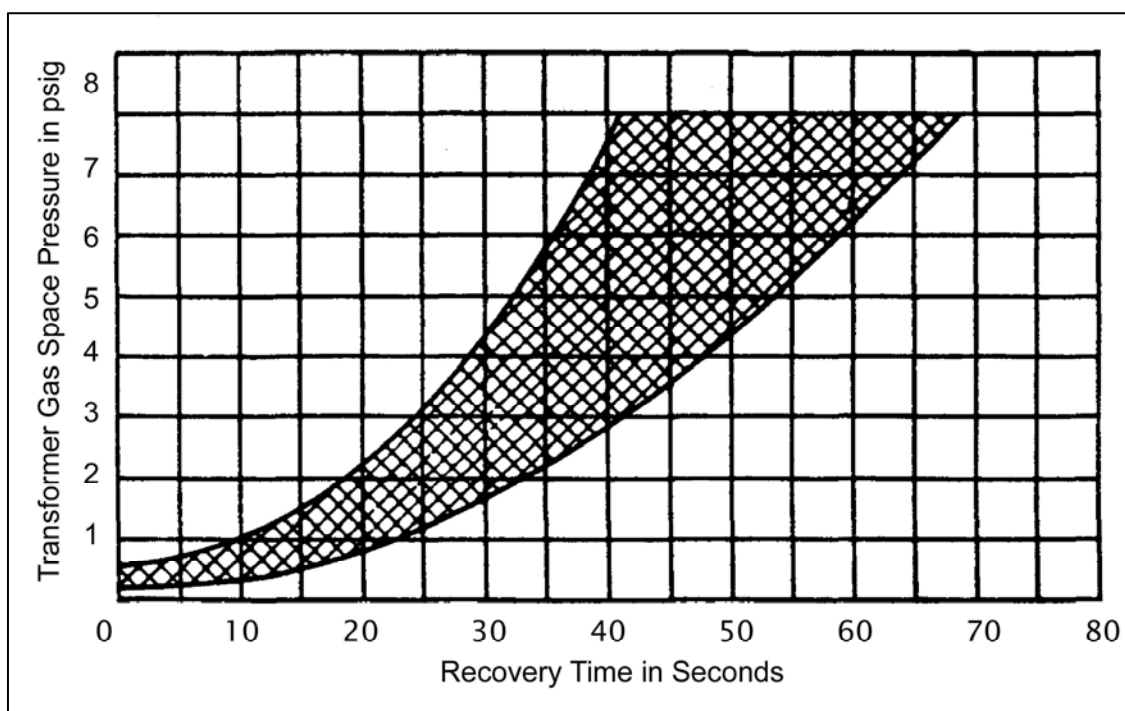

Figure 3: Recovery Time vs Pressure Curve
The operation of the Sudden Pressure Relay should be checked when it is installed and every six months or each year afterwards. There is a definite relationship between the transformer gas pressure and the time required to equalize the pressures between the transformer and the Sudden Pressure Relay. This relationship is shown graphically in Figure 3 and is the basis for checking the operation of the Sudden Pressure Relay. The following test may be made on the Sudden Pressure Relay while the transformer is in service, providing the transformer is operating at a positive tank pressure in excess of 3/4 psig.
6. Using the recovery time recorded in (5) and the pressure recorded in (2) as coordinates on Figure 3, Time and Pressure Curve, check to see that the point is within the allowed operating area. Wide deviation of this field test point from the allowed area of the curve should be referred to your ABB representative.